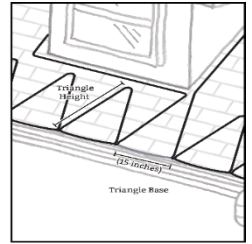

FIGURE 2: Triangle pattern along the roof line.
**Pattern for the roof line:** The cable laid along the roof line is arranged in a triangular pattern (see Figure 2). The cable **MUST** extend above the overhang into the heated section of the roof. To determine the height of the triangles, measure the depth of the overhang. The triangle heights are measured by the number of shingle rows from the roof edge (based on the standard 5½ inch tab shingles). The triangles should extend at least one shingle row (5½ inches) into the warm roof area.